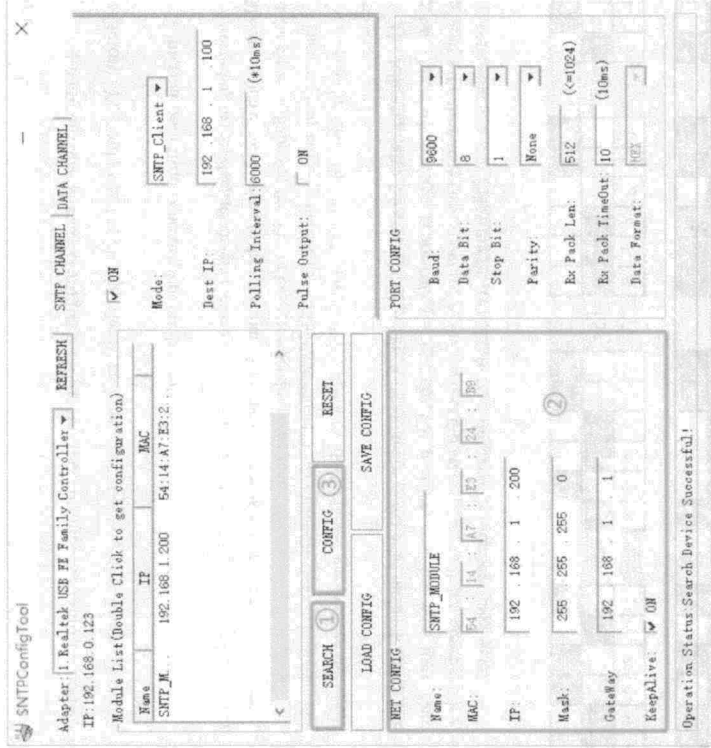

Figure 1 Search device diagram
- 1. Open the configuration software, select the corresponding network card, and click "Search Module". The module list will display the modules within the subnet, as shown in Figure 1.